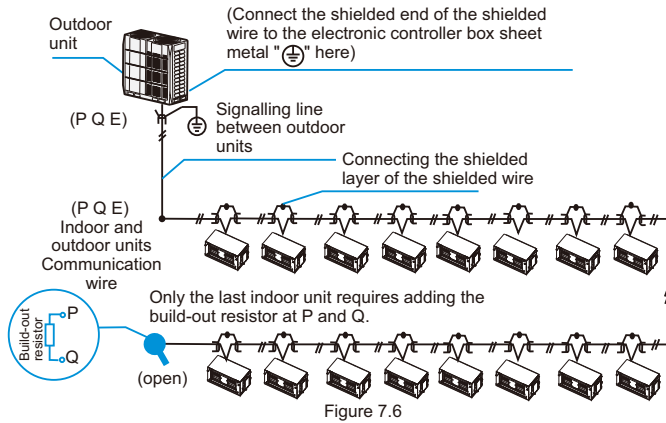

Figure 7.6
- The communication wiring between the indoor and outdoor units should connect one unit after another in a daisy chain from the outdoor unit to the final indoor unit, and the shielded layer must be properly grounded, and a build-out resistor must be added to the last indoor unit to enhance the stability of the communication system (see Figure 7.6).